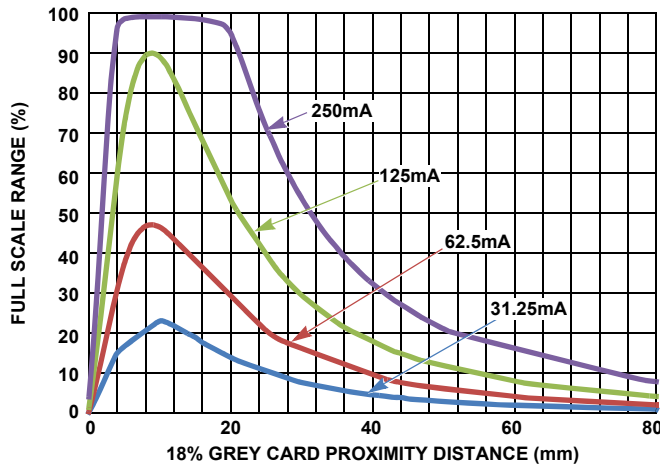

FIGURE 6. PROXIMITY SENSITIVITY (Note 12)
12. Figure 6 shows ISL29038 Proximity distance sweeps with different IRDR LED current settings using an 18% Grey card reflector.